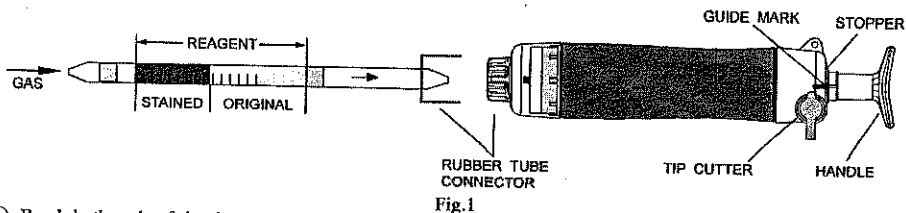

Fig.1
- ① Break both ends of the detector tube.
- ② Insert the detector tube into aspirating pump securely as shown in Fig.1. (Arrow mark shall point to the pump.)
- ③ Align the guide marks on the shaft and stopper of the aspirating pump.
- ④ Pull the pump handle at full stroke until it locks and wait for 1 minute or until the completion of sampling is confirmed with the flow indicator of the pump (See descriptions about the flow indicator in the instructions of the pump).
- ① On completion of sampling, read the scale at the maximum point of the stained layer.